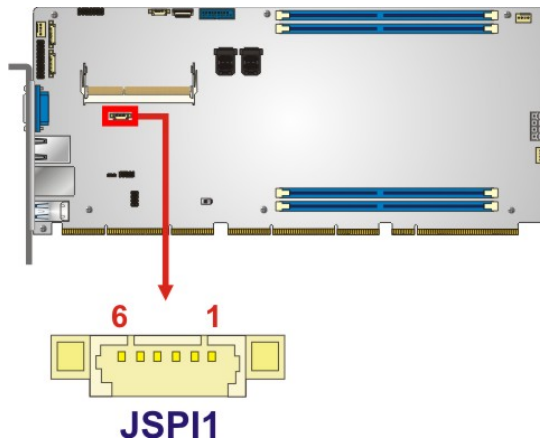

Figure 3-13: SPI Flash Connector Location
- CN Location:** See **Figure 3-13**